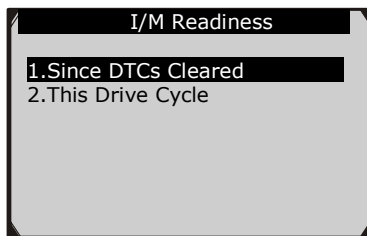

Figure 6.21
- 3) If the vehicle supports both types of tests, then both types will be shown on the screen for selection. (Figure 6.21)